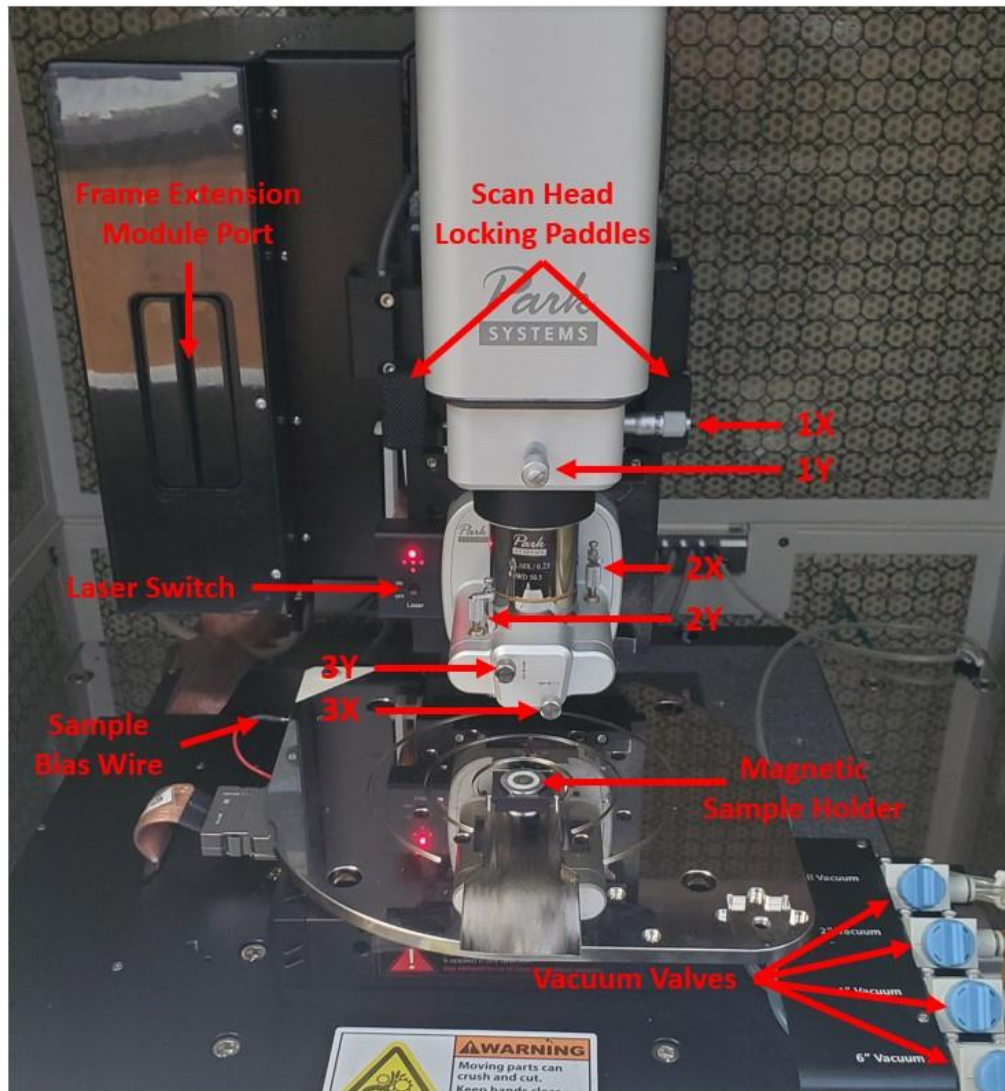
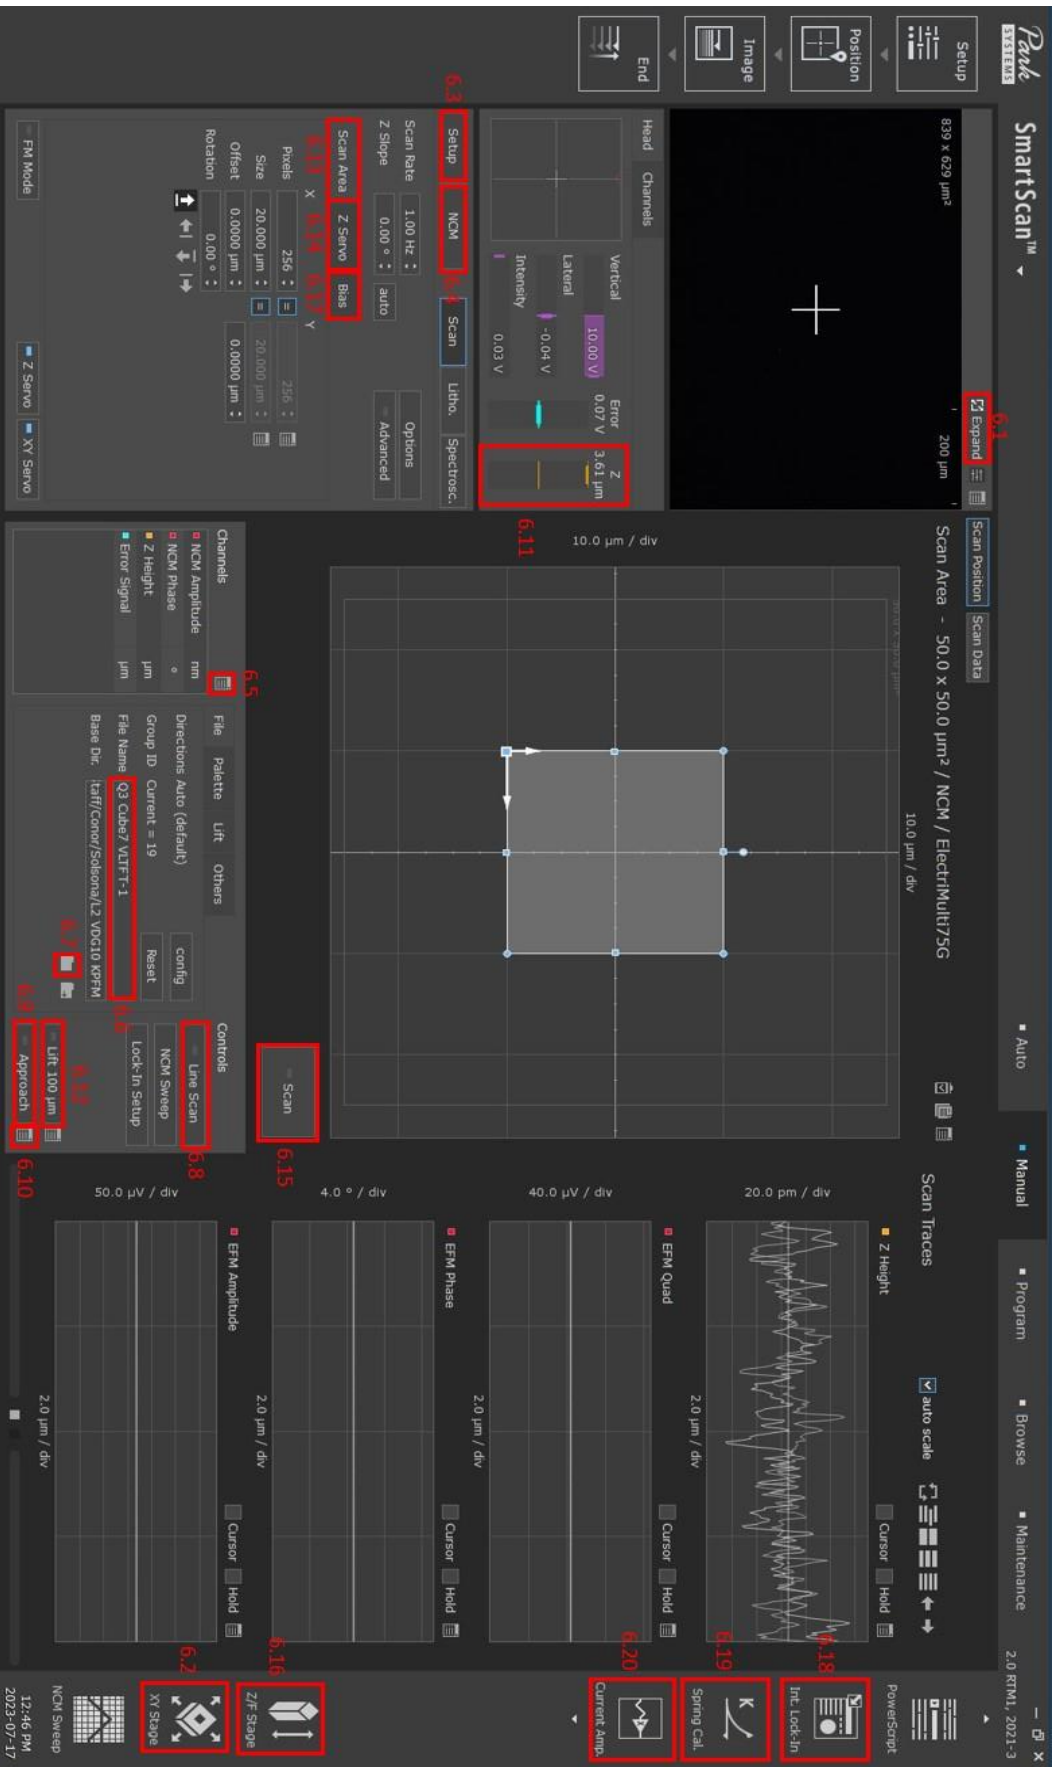
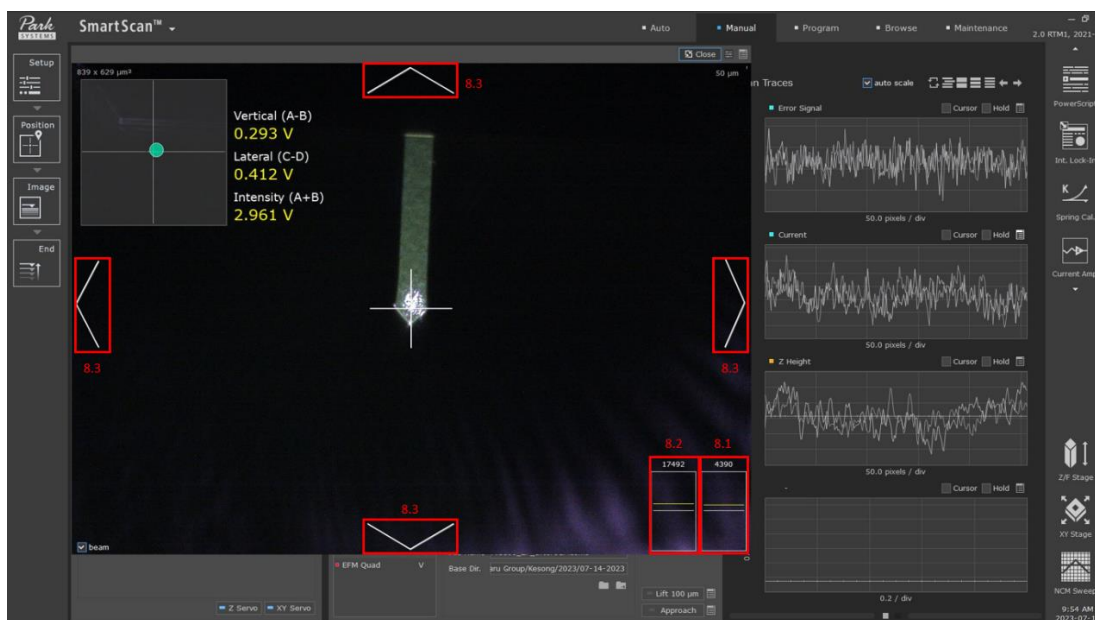

Figure 3: Controls in the enclosure
Figure 6: Main Control Page
Figure 8: Expanded camera view
8. Use the top pair of knobs on tool to center the cantilever in camera view. See Knobs **1X** and **1Y** in **Figure 3**. You can expand the camera view using the Expand Button (**Button 6.1** in **Figure 6**). You should line up the end of the tip with the cross displayed on the screen.
9. Use the pair of knobs on the top part of the scan head to move the laser so that it is centered over the end of the cantilever. See **Knobs 2X** and **2Y** in **Figure 3**.
10. Use the bottom pair of knobs (Knobs **3X** and **3Y** in **Figure 3**) to center the laser beam in the detector
11. Load sample. Use the XY Stage control (**Button 6.2 in Figure 6**) to move the stage towards the enclosure door.
- If using the vacuum chuck, unscrew magnetic sample holder, turn on vacuum pump under desk, and turn the appropriate valve on the right side of the chuck. See **Figure 3**
13. Press the Setup Button (**Button 6.3 in Figure 6**) and select the cantilever you are using from the library. If the cantilever you are using is not listed, contact Nano3 Staff to help you add it.
- Make sure the Line Scan is turned off when changing the cantilever type. You can turn off the Line Scan with **Button 6.8 in Figure 6**
14. Press **Button 6.4 in Figure 6** to select your desired scanning mode.
15. Press **Button 6.5 in Figure 6** to open the Channel Config window.
16. Give your scan a filename in **Box 6.6** in **Figure 6** and select the folder to save the scans in.
- All scans must be saved in a folder in **D:/SpmData** as this is the folder connected to the data computer. You can press **Button 6.7** in **Figure 6** to open Windows File Explorer to create and select the folder you want to save your scans in.
- Expand the Camera view (**Button 6.1** in **Figure 6**) and move the microscope focus down as far as it will go (1350 μ m) using the Focus stage adjustment (**Button 8.1** in **Figure 8**). Click and hold below the white line to move the focus down. The farther from the center line you click, the faster it will move.
- Move the Z Stage down (**Button 8.2** in **Figure 8**) in the same way as the Focus stage until you start to see your sample come into focus. Be careful as you get close to the sample, as if you approach too far, you can crash the tip and potentially damage the tool and your sample.
18. Once sample is in focus, use the XY stage controls in the Camera View (**Buttons 8.3** in **Figure 8**) to move to your desired scan location. If you aligned the cantilever with the cross in Step 10, then you can use the cross as an indicator of where the tip will land.
20. Close the expanded Camera View and start the automatic approach with **Button 6.9** in **Figure 6**.
- You can change the approach method by pressing **Button 6.10** in **Figure 6**. “Quick and Safe” is the recommended approach method for scans in air.
- If the approach was successful, you should be able to see the sample and cantilever both in focus in the camera view and the Z-Scanner Bar (**6.11** in **Figure 6**) should be half orange. If it is fully orange, it means you had a false approach. Lift the tip using **Button 6.12** in **Figure 6** and try approaching again.
21. Select the Scan Area Tab (**Button 6.13** in **Figure 6**). Input your desired scan size (maximum 50 μ m \times 50 μ m), desired number of pixels, rotation, and select your scan direction. Make sure to confirm changes by pressing Enter after each change.
22. Select the Z Servo tab (**Button 6.14** in **Figure 6**) and turn on the Line Scan (**Button 6.8**) if it is not already activated. This will cause the tip to start scanning back and forth on the same line to make sure the tip is tracking the surface correctly.
23. When the Z Height scan is looking good, press the Scan button (**Button 6.15 in Figure 6**) and the tip will begin the raster motion and scan your sample. During the scan, monitor the Z Height to make sure the forward and backwards scans remain well matched. Adjust gains and setpoints as needed during the scan but be aware that large adjustments can cause artifacts in the scan.
25. When done scanning, lift the tip to its maximum position either by using the Z stage or by pressing the “Lift Z All” button in the Z/F Stage Control (**6.16 in Figure 6**). Once the stage has stopped moving, turn off the Laser switch, unlock the scan head with the black paddles, and remove the scan head.